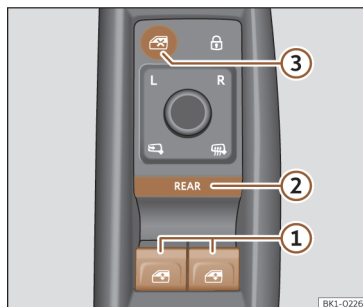

Fig. 80 Detail of the driver's door: window controls.
- 3 Button to deactivate the power window operation buttons on the rear doors. By default, the power windows on the front doors can be operated with the buttons >>> **Fig. 80** ①.
REAR Briefly press button >>> **Fig. 80** ② to activate the operation of the **rear** door power windows. When the operation of the rear door power windows is activated, the button's light is on.
Press the button >>> **Fig. 80** ③ to deactivate the power window buttons located on the rear doors. When these buttons are deactivated the button light turns out.